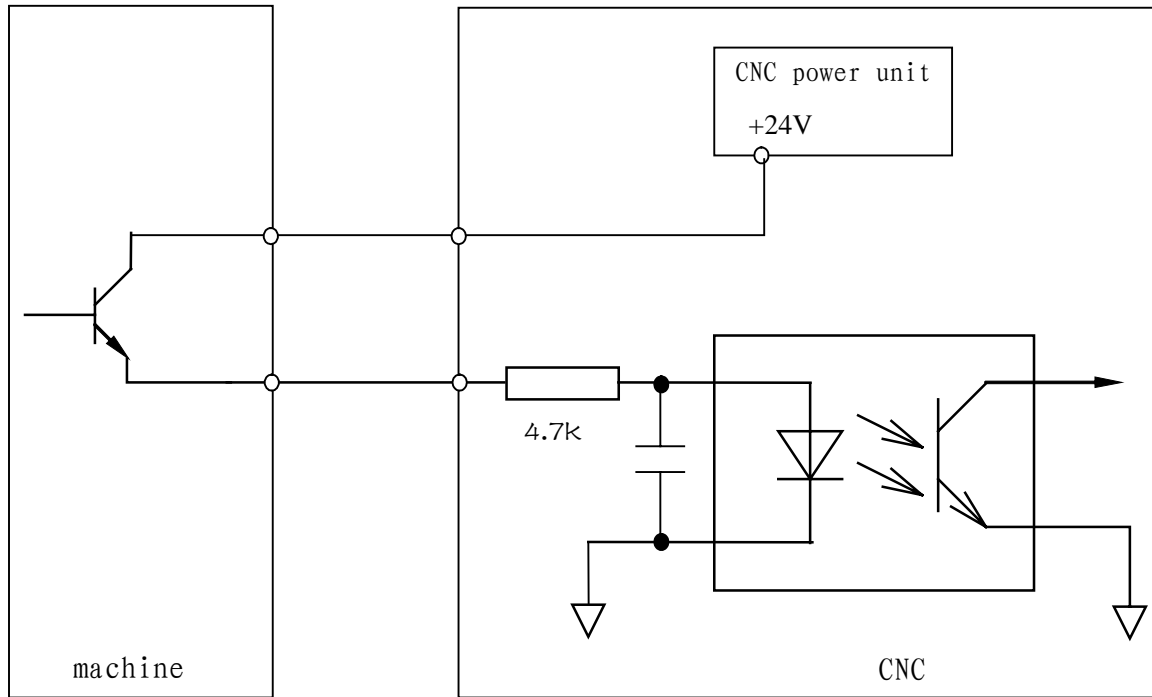
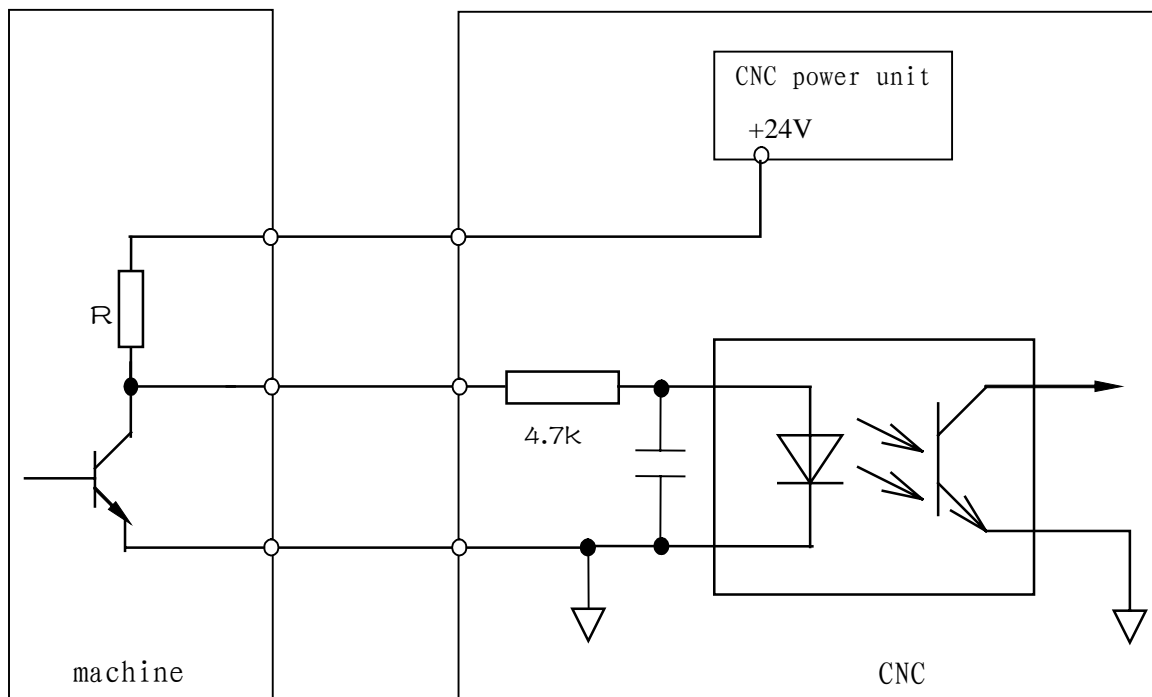

Fig. 4.1.2a
Fig. 4.1.2b
(1) Contact on machine tool according to the following conditions:
(2) Signal circuit diagram is as Fig. 4.1.2a. or Fig. 4.1.2b.